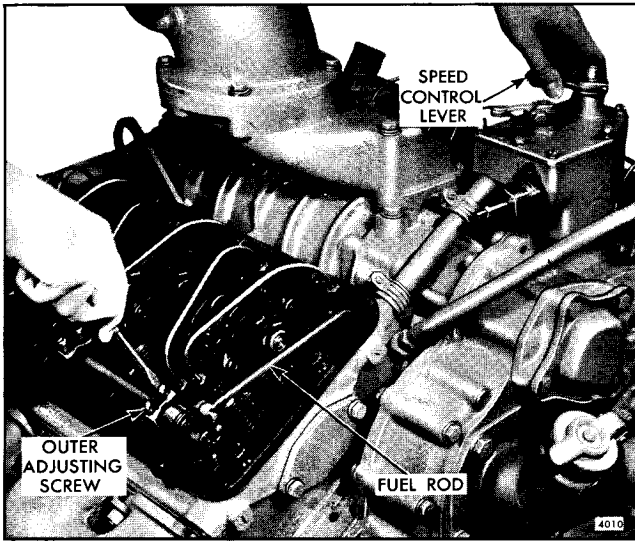

Fig. 3 - Positioning No. 3L Injector Rack Control Lever
6. Move the speed control lever to the maximum speed position; hold it in that position with light finger pressure. Turn the inner adjusting screw of the No. 3L injector rack control down, as shown in Fig. 3, until a step-up in effort is noted. This will place the No. 3L injector in the FULL-FUEL position. Turn down the outer adjusting screw until it bottoms lightly on the injector control tube. Then, alternately tighten both the inner and outer adjusting screws until they are tight.